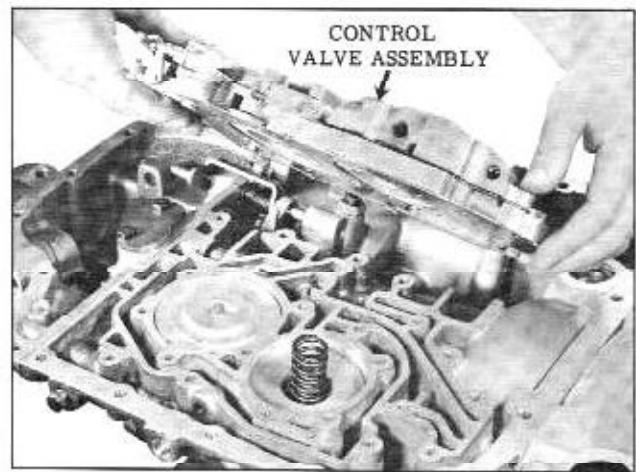

Fig. 3-119 Installing Valve Bodies
56. Place the control valve assembly over the servo and accumulator pistons and install attaching bolts. Torque 6-8 ft. lbs. (Fig. 3-119)